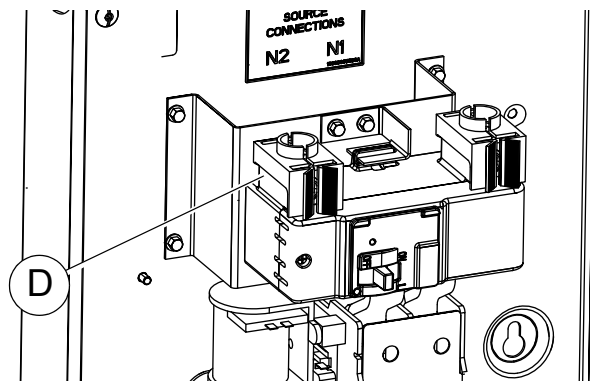

Figure 3-1. Line Terminal Barriers
See Figure 3-1. The 2017 update of UL67 (Standard For Panelboards) and NEC Article 408.3(A)(2) require line terminal barriers (D) on the utility side of the main service breaker. These “Touchsafe” barriers help to protect the installer and field service technicians from accidentally contacting live circuit parts only when the Service Disconnect Circuit Breaker is OFF.